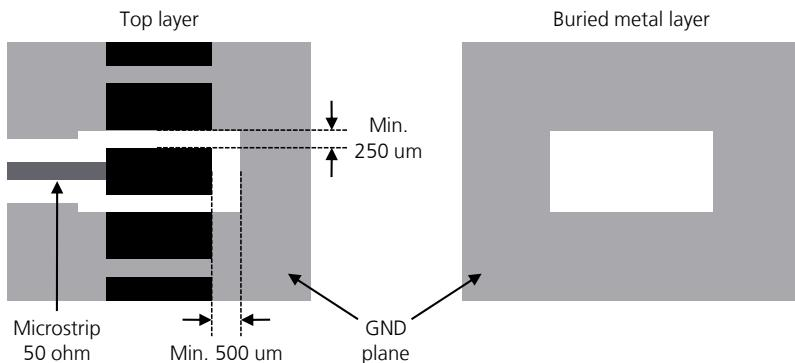

Figure 56: GND keep-out area on top layer around **ANT** and **ANT\_DIV** pads and on buried layer below **ANT** and **ANT\_DIV** pads
- Increase GND keep-out (i.e. clearance) for **ANT** and **ANT\_DIV** pads to at least 250 µm up to adjacent pads metal definition and up to 500 µm on the area below the module, as described in Figure 56
- Add GND keep-out (i.e. clearance) on buried metal layers below **ANT** and **ANT\_DIV** pads and below any other pad of component present on the RF line, if top-layer to buried layer dielectric thickness is below 200 µm, to reduce parasitic capacitance to ground (see Figure 56 for the description of the GND keep-out area below **ANT** and **ANT\_DIV** pads)